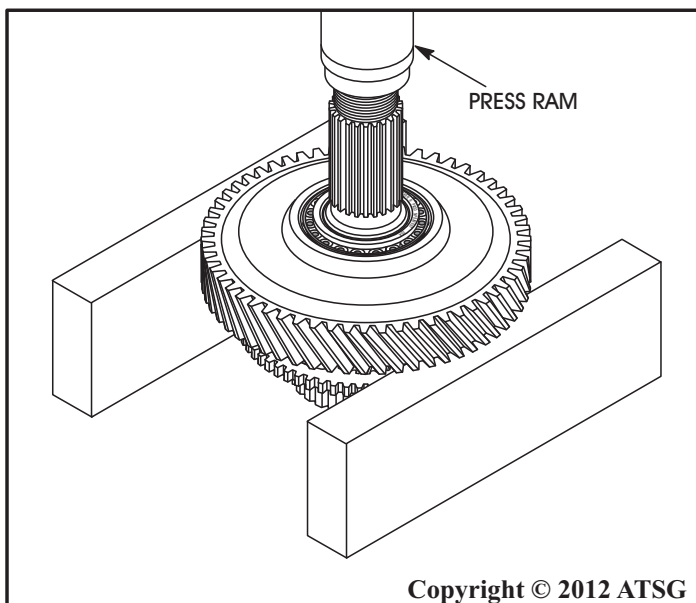

Figure 171
7. With the assembly still in the press, place suitable supports under the driven transfer gear, as shown in Figure 171.